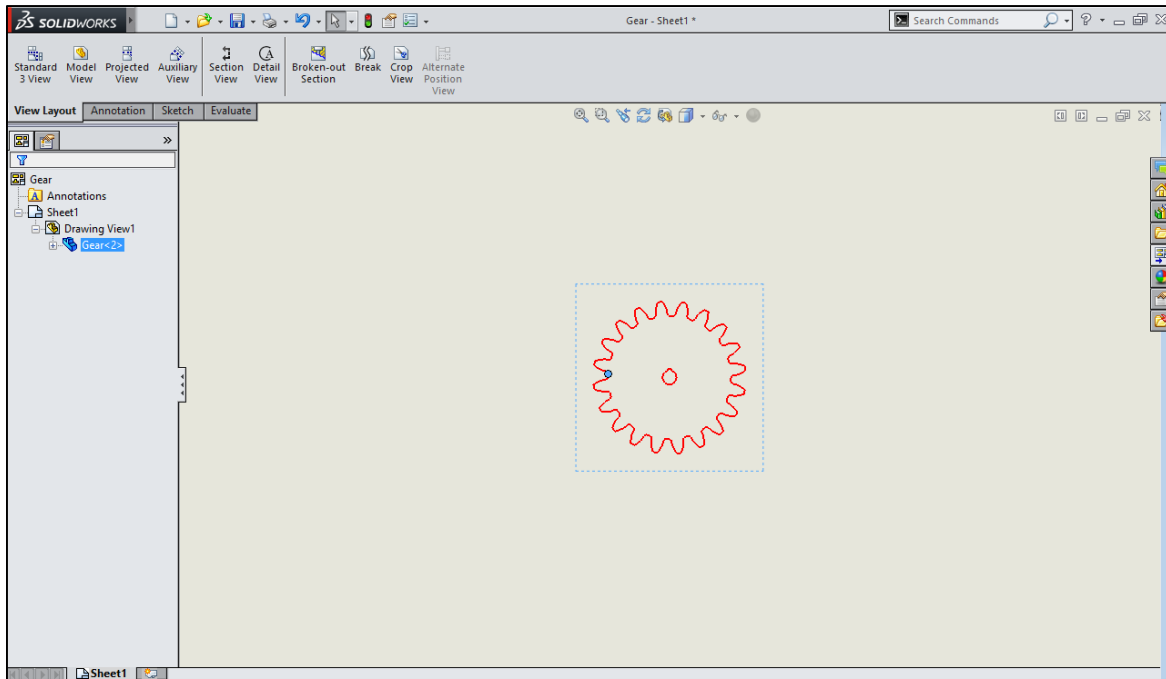

Figure 9
- Right click the drawing and select 'Change Layer' again. When the dialogue comes up, this time select 'Vector Cut' from the dropdown menu. The drawing of the gear should now be red (Figure 9).